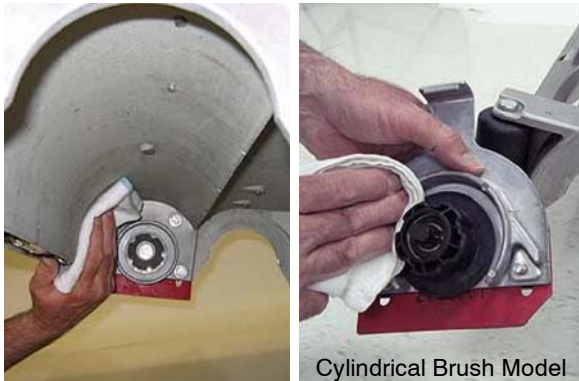

FIG. 64
8. Remove debris buildup from the underside of the cylindrical brush scrub head, including the idler plates and drive hubs (Figure 64).